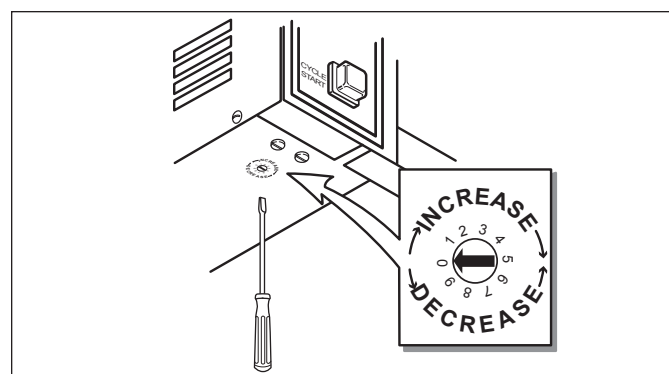

Figure 10. Water Volume Adjustment
9. With the unit positioned at the edge of its location surface (Edge of the counter, table, etc.) slide the steamer forward approximately 3" to expose the Water Volume Control on the bottom of the unit (Figure 10).
10. Using a small screwdriver (Figure 10), carefully and slowly adjust the control clockwise to increase or counterclockwise to decrease the amount of water volume used per cycle.